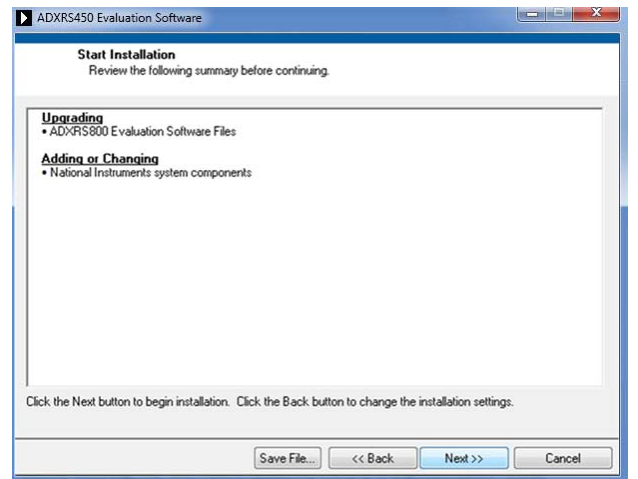

Figure 4. Start Installation (Listing Varies Based on PC Requirements)
4. Read the license agreement before accepting it; then, click **Next**. The installer lists the required components to install on your PC (see Figure 4).